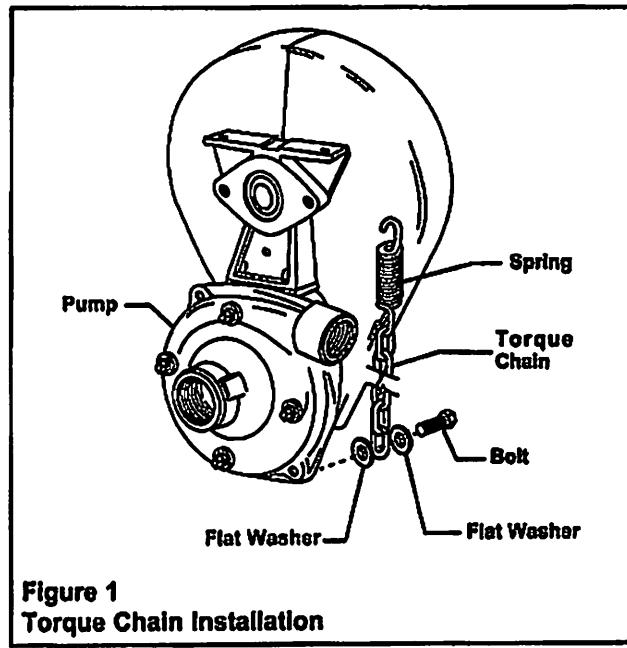

Figure 1
1. Remove one Pump Casing Outboard Bolt (farthest away from the PTO shaft). Using a 1/4" longer Bolt and two Flat Washers, attach a length of chain or other flexible fastener to the bolt between the washers (See Figure 1) and insert them into the Pump Casing in place of the bolt removed. Secure the other end of the torque chain to something solid on the tractor, preferably above the pump rather than below. If it cannot be attached to anything above the pump, it may be fastened to the draw bar or frame directly below the pump.